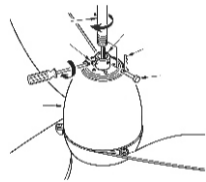
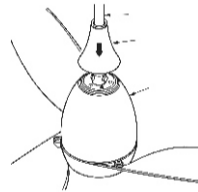

Fig.9
Fig.10
Step 3: Thread the rod into the motor shaft, tighten the set screw, clevis pin, **and slip the coupler cover on to the fan body.** (Fig. 9 & Fig. 10)